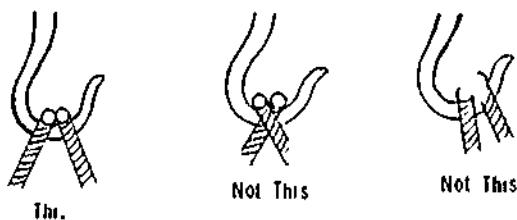

Figure 2-7. Correct Loading of Hook
h) When loading a hook with two sling eyes, make sure that one eye does not lie on top of or above the other, and that both are at the bottom of the hook, as shown in Figure 2-7.